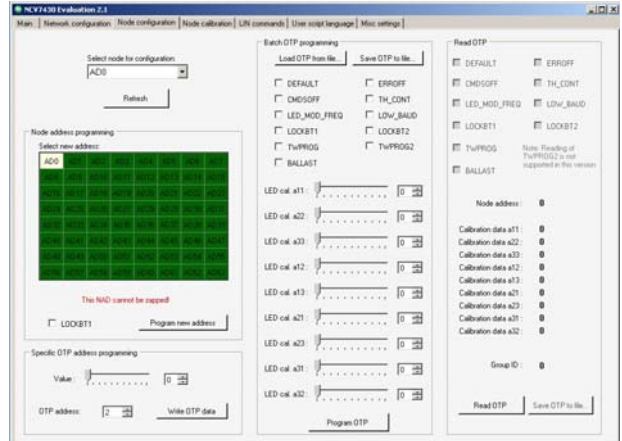

Figure 11. Lock the New Address with LOCKBT1
7. Move to the Node configuration tab. Select a new address from the green matrix. Program the new address. Lock the new address with LOCKBT1 (see Figure 11).